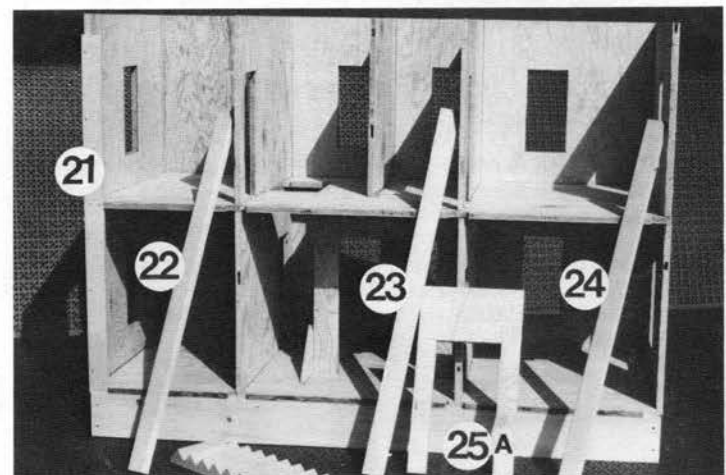

Fig. 10
STEP 9: Verify parts 21, 22, 23, and 24 for vertical fit and install. Do not install 25A at this time. (FIGURE 10).